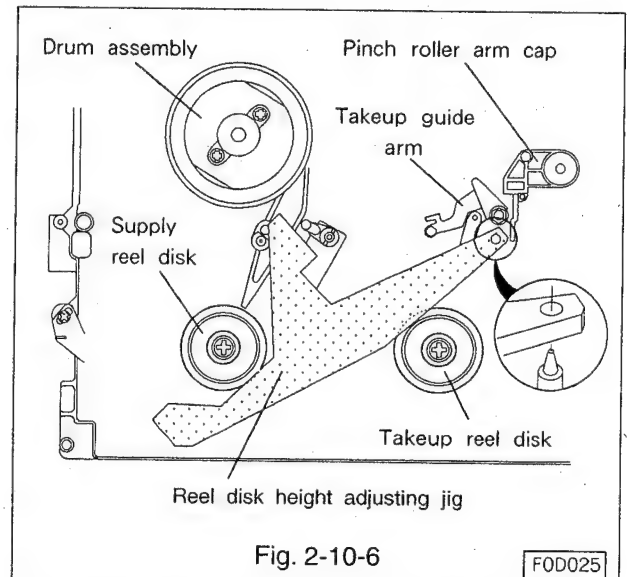

Fig. 2-10-6
- J. Place the reel disk height adjusting jig (Part Number 859C342O20) in the reference position on the main plate. (Refer to Fig. 2-10-6.)
- Place the reel disk height adjusting jig (Part Number 859C342O20) in the reference position on the main plate. (Refer to Fig. 2-10-6.)
- Place the reel disk height adjusting jig(for the F deck) in the reference position on the main plate(Refer to Fig. 2-10-6). Tighten the takeup guide arm fastening nut so that the lower flange of the takeup guide arm is level with point B of the height adjusting jig(for the E deck).